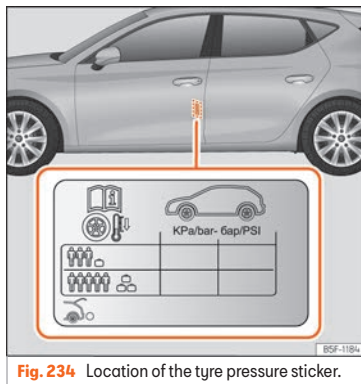

Fig. 234 Location of the tyre pressure sticker.
- Adjust tyre pressure to the load being carried by the vehicle » **Fig. 234**.
The tyre inflation pressures are listed on a sticker on the rear of the front left door frame » **Fig. 234**.
The tyre pressure must be adjusted according to the load the vehicle is carrying. If the vehicle is going to carry the maximum load, the tyre pressure should be increased to the maximum value indicated on the sticker » **Fig. 234**.
In the case of a minimised temporary spare wheel (125/70 R16 or 125/70 R18), inflate to a pressure of 4.2 bar as indicated on the tyre pressure label » **Fig. 234**.
ded tyre pressure is indicated on the label » Fig. 234.
- When the tyres are cold, tyre pressure should be that indicated on the label » Fig. 234.